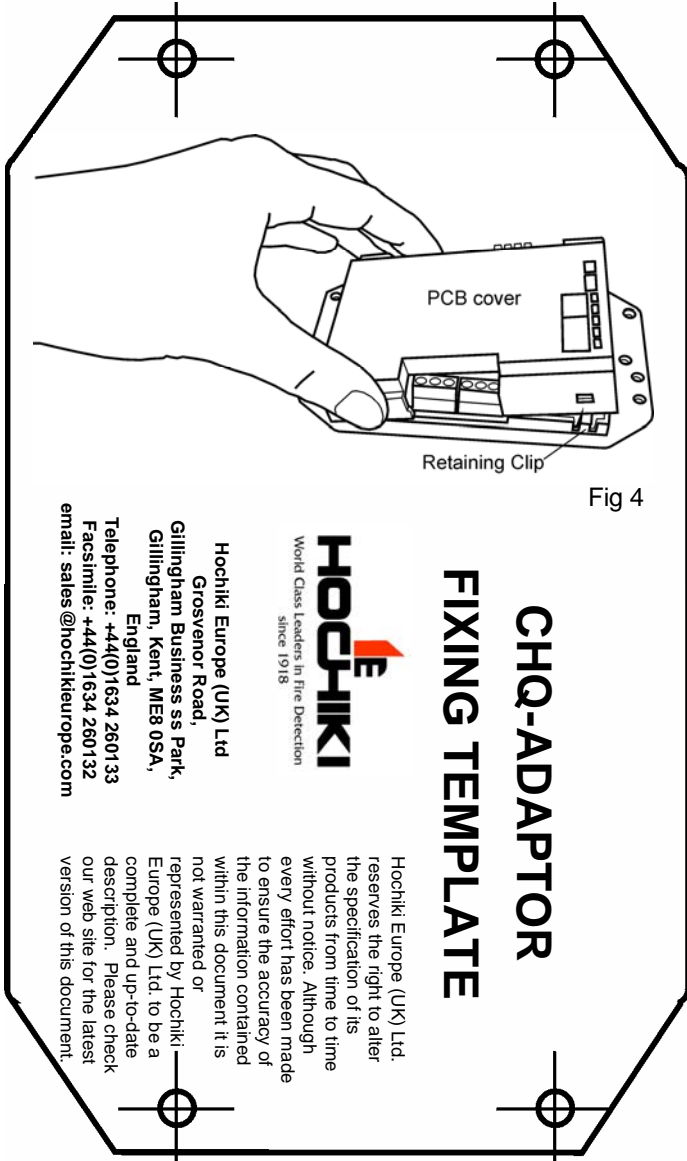

Fig 4
- ❑ Ensure the plastic lugs on the inside edge of the PCB cover (opposite end to the holes for the retaining clips) are engaged in their respective holes. The retaining clips on the adaptor will now be lined up with their corresponding holes on the PCB cover (see Fig 4 overleaf).